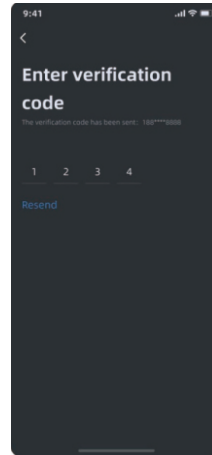

Figure 2
- 2)Figure 2: After entering the verification code, enter the password setting page.